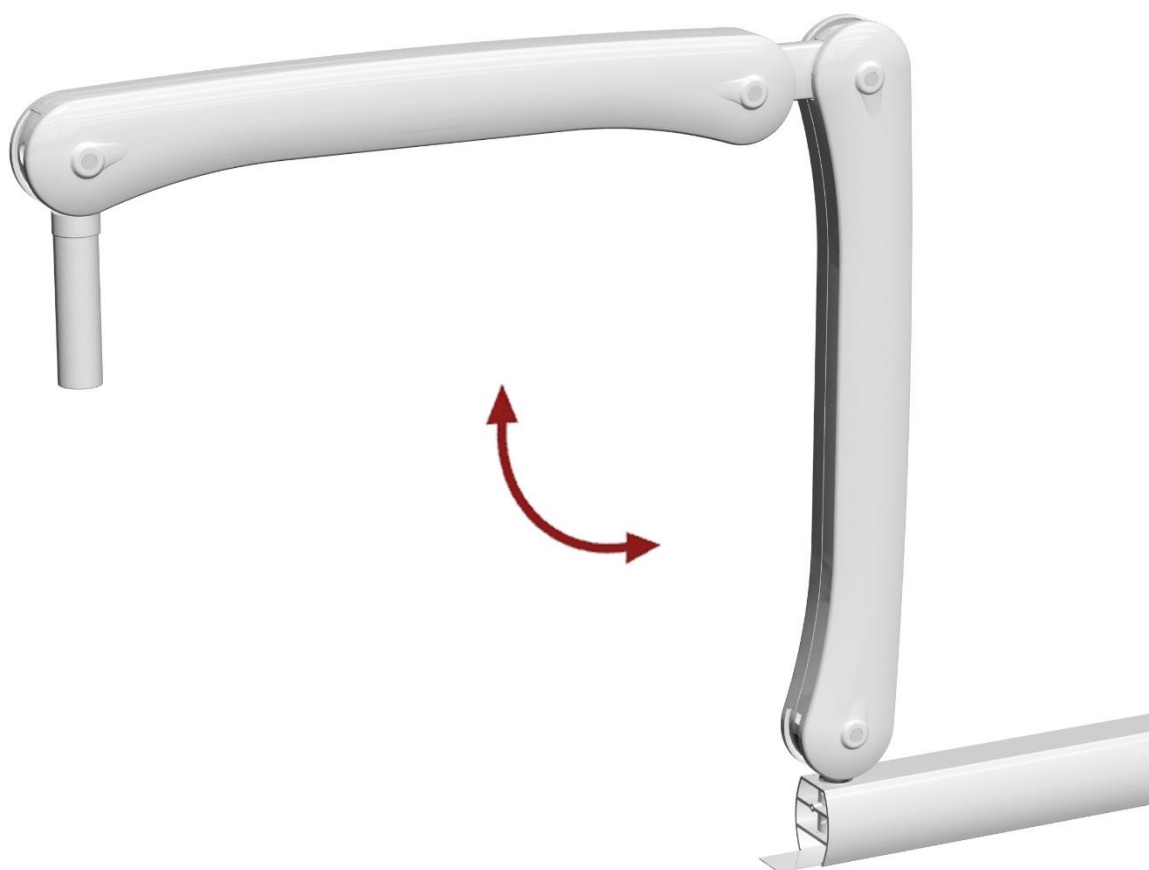

fig. 6
- ✓ Before inserting the monoblock (D) it is essential to work in safety by opening the double pantograph arm (C) as shown in fig. 6, to avoid that it snaps abruptly since it has the springs charged and calibrated to support the weight of the monoblock.